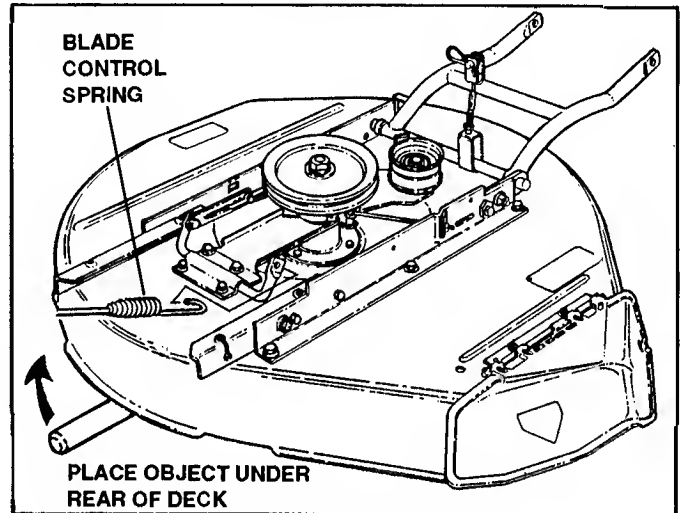

FIGURE 33
7. Disconnect BLADE CONTROL SPRING from mower deck. See Figure 33.